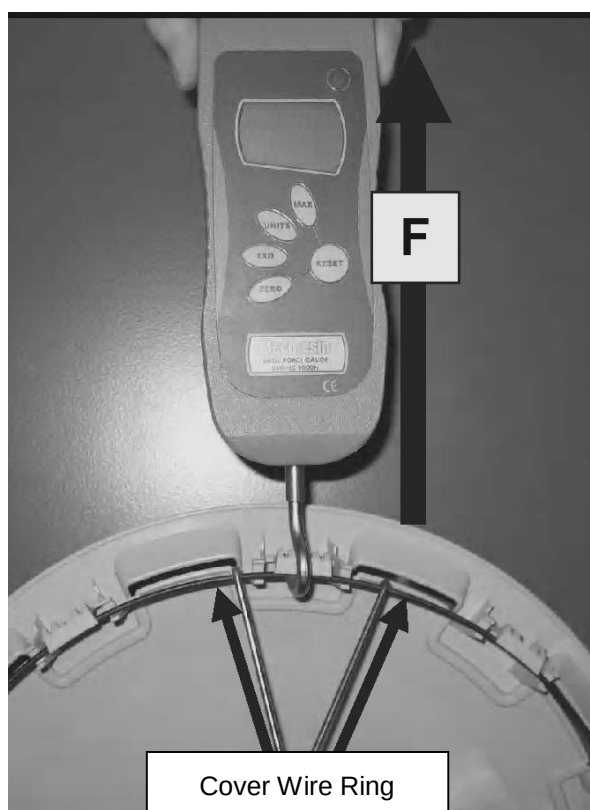

Figure 2: Measuring Device for Wire Retaining Force and Pulling Hook
**3.2.2** Measuring device for wire ring retaining force (e.g., piezoelectric force transducer, Kistler type 9021 or equivalent). See Figure 2.
**3.2.3** Pulling hook. See Figure 2.